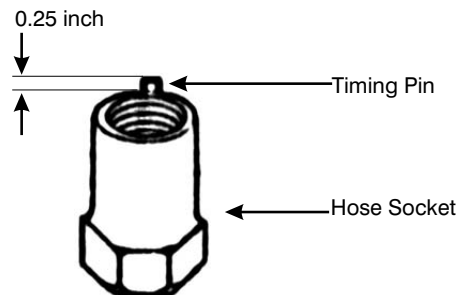

Figure 8-20. Inspect Hose Socket.
- 3. Refer to Figure 8-20. Inspect the Hose Socket Timing Pin for damage and correct height. The Timing Pin should extend 1/4-inch from the Hose Socket (15).